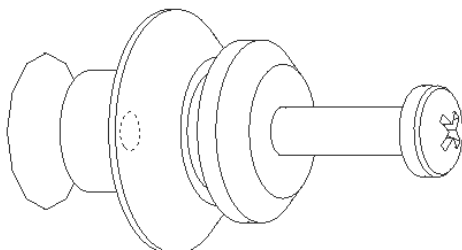

Figure 2
2. Attach mounting buttons to plasma using six M5 x 35 Philips head cap screws provided (see Figure 2 & Figure 3).